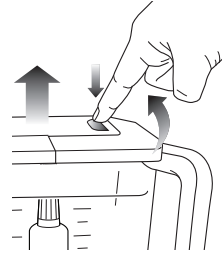

Fig. 6
- 7 When you have reached your desired consistency, stop the appliance by pressing the power button (⏻) and wait for the attachment to stop turning. Then remove the lid by pressing the release button, lifting the handle up and pulling straight up. (Fig. 6)